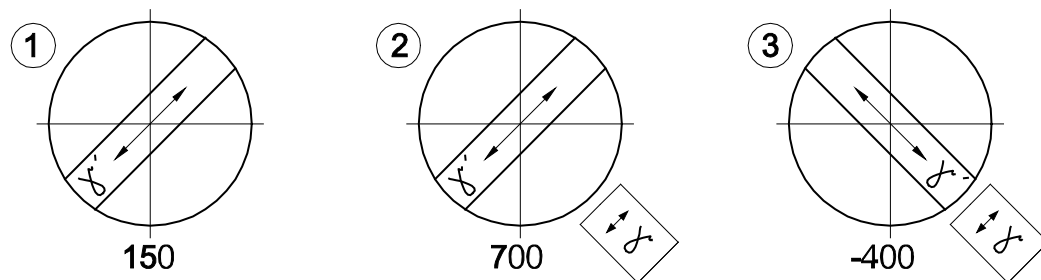
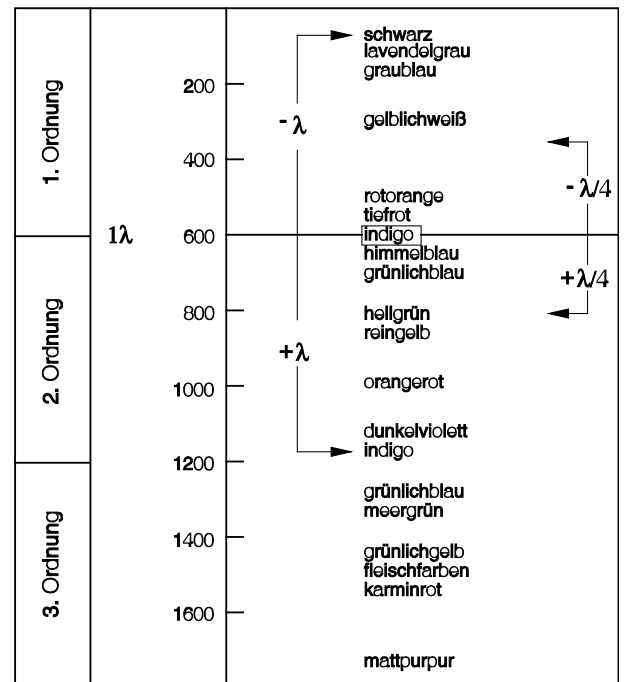

Fig. 200 Determining the vibration direction n_γ' based on the example of a synthetic fiber
Fig. 201 Schematic diagram of the color charts according to Michel-Lévy
- Next, turn the rotary stage Pol through a further 45° until the longitudinal axis of the fiber is oriented NORTH-EAST (NE) – SOUTH-WEST (SW) (Fig. 200). In this position, the specimen exhibits the maximum brightness (diagonal position) and may appear in any color.
There is a greater path difference if the vibration direction of the specimen with the highest absolute or relative refractive index (n_γ or n_γ') is parallel to the principal vibration direction of the compensator λ . The specimen will then appear, for instance, greenish-blue (Fig. 200/2).
The smallest path difference occurs if the vibration direction of the specimen with the lowest absolute or relative refractive index (n_α or n_α') is perpendicular to the vibration direction of the compensator λ . The specimen will then appear e.g. yellow (Fig. 200/3).
The grayish-white color appearing first in the bright position in the above example (Fig. 200/1) corresponds to a path difference of 150 nm according to the Michel-Lévy color chart (Fig. 201).